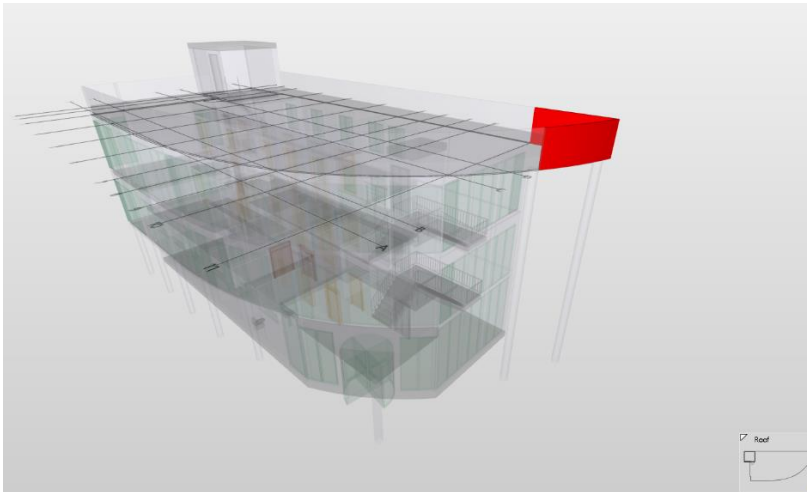

Figure 52: Transparent visualization
(10) In case you want to visualize results differently you have several options:
(11) **Transparent visualization:** select one of the issues or categories and choose **Transparent** visualization in the **Results View** Toolbar . Now the components in the selected issues are highlighted (see Figure 52).